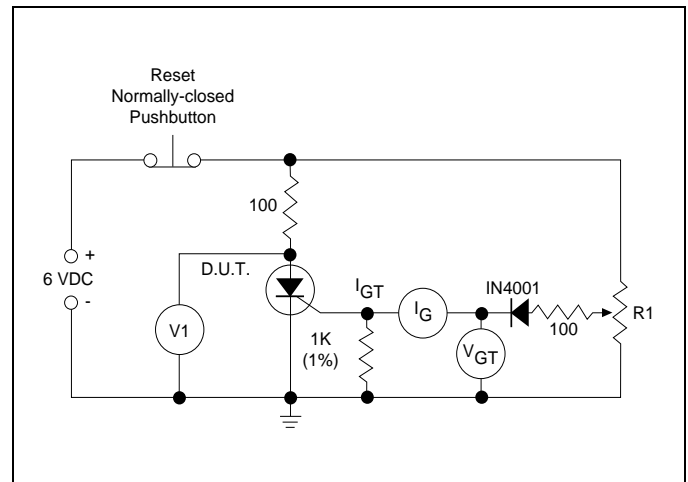

Figure 5.19 Simple Test Circuit For Gate Trigger Voltage and Current Measurement
- (10) Test condition is maximum rated RMS current except TO-92 devices are 1.2 $A_{PK}$ ; T106/T107 devices are 4 $A_{PK}$ .
- (11)  $V_D = 6VDC$ ,  $R_L = 100\Omega$ . See Figure 5.19 for simple test circuit for measuring gate trigger voltage and gate trigger current.